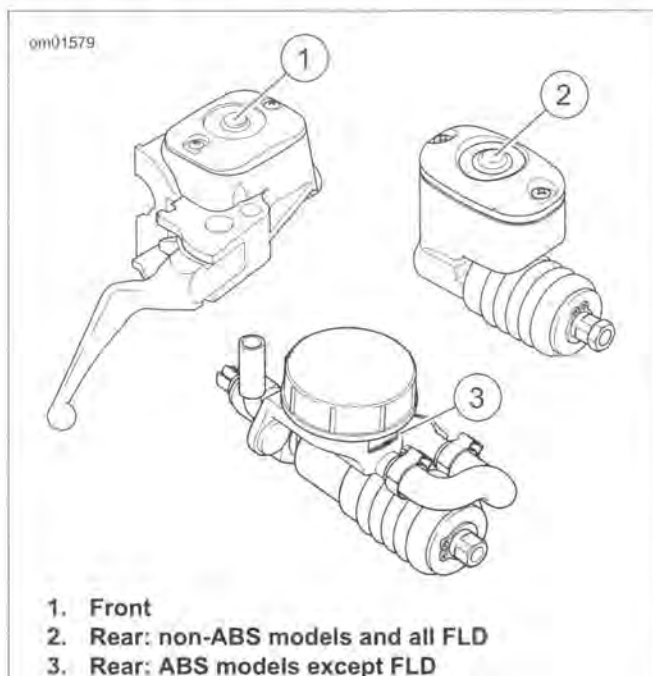

Figure 1-29. Brake Fluid Sight Glass/Window
1. See Figure 1-29. View reservoir sight glass and verify fluid presence. Sight glass should appear dark if fluid is present.